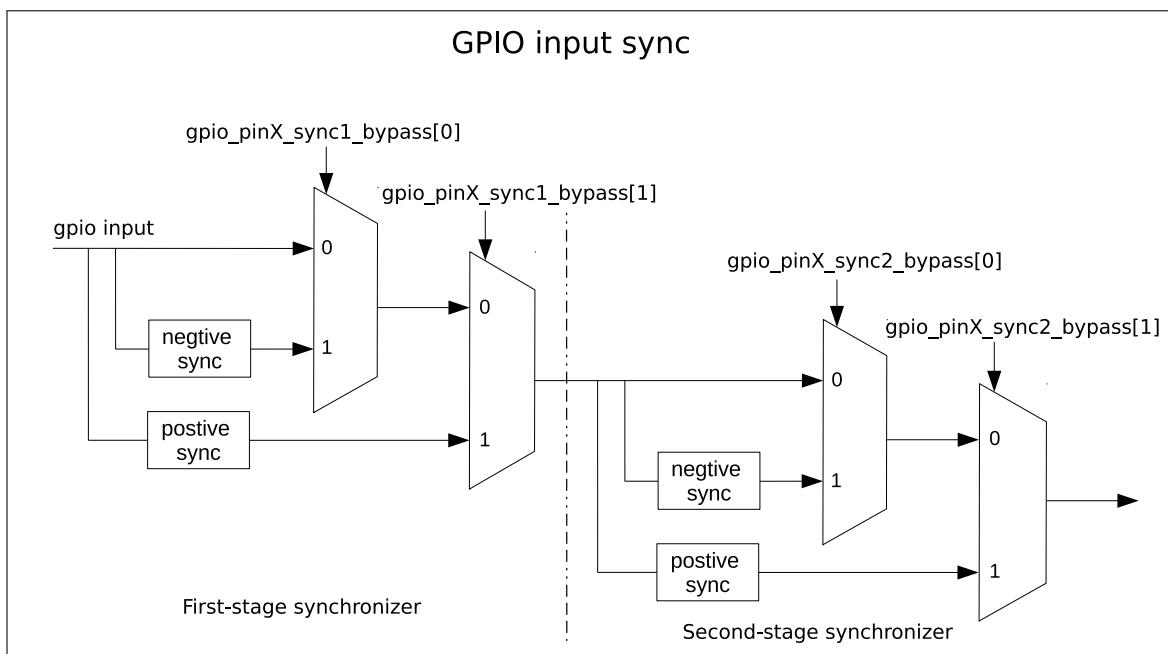

Figure 6-3. GPIO Input Synchronized on APB Clock Rising Edge or on Falling Edge
Figure 6-3 shows the functionality of GPIO SYNC. In the figure, negative sync and positive sync mean GPIO input is synchronized on APB clock falling edge and on APB clock rising edge, respectively.
- Set `GPIO_PIN x _SYNC1_BYPASS` to enable input signal synchronized on rising edge or on falling edge in the first clock, see Figure 6-3.
- Set `GPIO_PIN x _SYNC2_BYPASS` to enable input signal synchronized on rising edge or on falling edge in the second clock, see Figure 6-3.